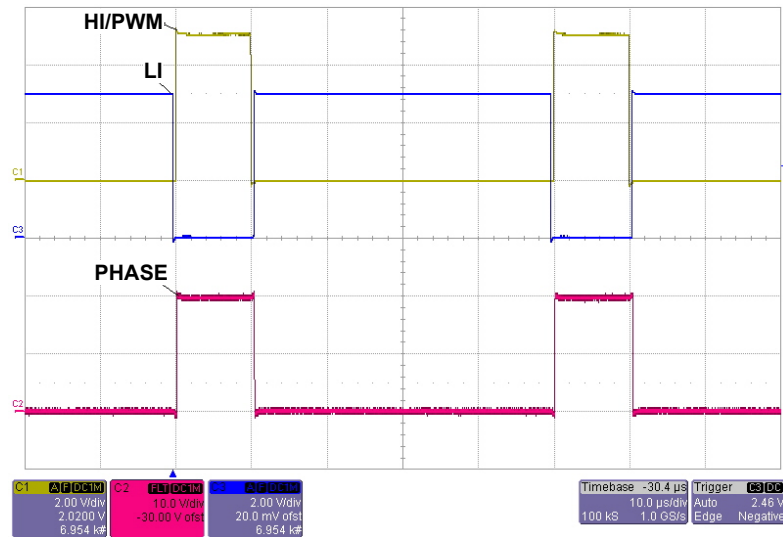

Figure 8. HI/PWM, LI, and Phase Signals
- (6) Turn on $V_{CC} = 5V$.
- (7) Measure 12V \pm 5% on the VDD pin of TB6 relative to the GND pin.
- (8) Press the Reset button. The four LEDs flash one after another, and then turn off.
- (9) Press the Start/Stop button. LED0 is flashing and HI/PWM and LI signals are active.
- (10) Turn the potentiometer CW until the waveform shown in Figure 8 appears.